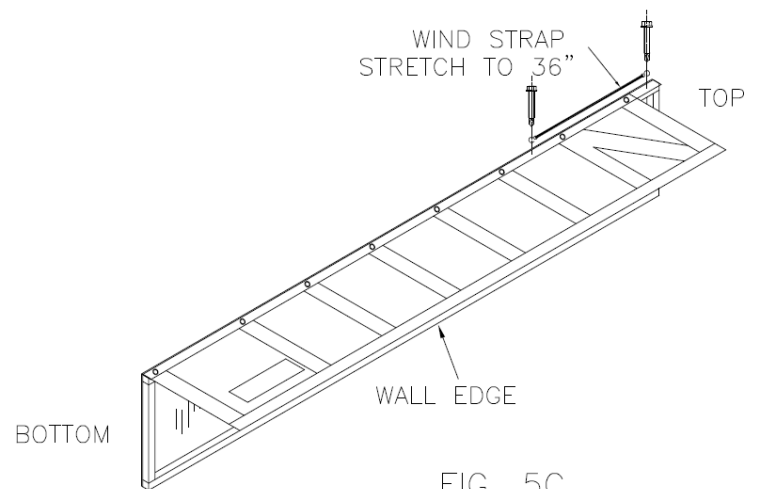

FIG. 5C
- a. **Place Wind Strap “S” hook** at hole at top of Vertical Frame (Figure 5c).